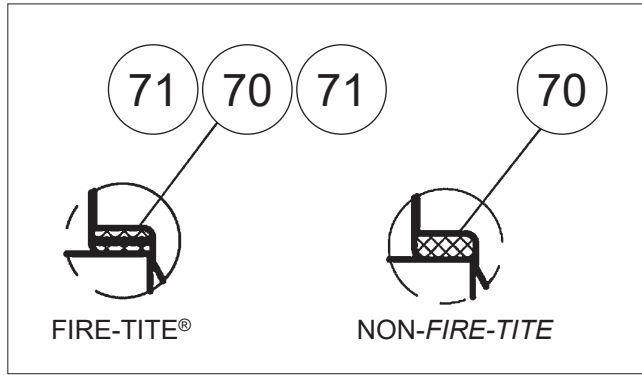

Figure 6. Thrust Bearing Orientations
6. From inside the body (1), insert the one thrust bearing (70), the secondary stem seal (71), and the second thrust bearings (70) into the stem bore (see **Figure 6**).